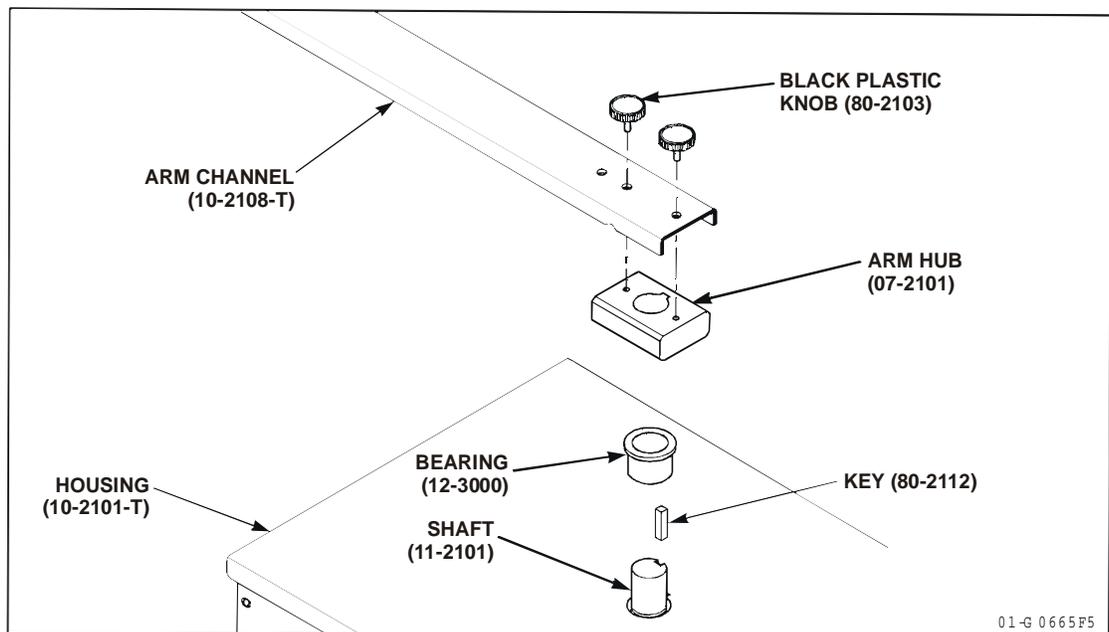

Figure 10
- Model SW 470:** Set the control arm stops on the operator in the positions appropriate for the installation. Then install the control arm and hub assembly to the operator output shaft. Attach control arm extension to arm hub with 1/4 -20 black plastic knobs provided as shown in Figure 10. Place hub onto shaft with key and secure using set screw. Be sure rubber seal is on end of hub to keep water out of bearing.